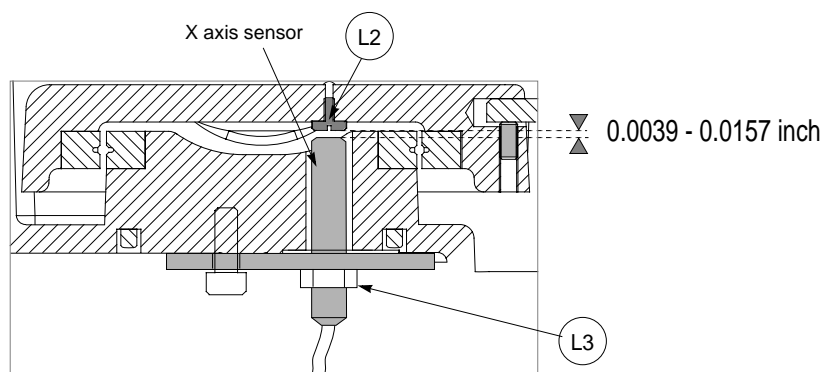

Fig. 48
- 4) loosen the (L3) nut. Unscrew the sensor from the plate and remove it (fig. 48).
- 6) fit the new sensor in position, tightening it until it almost touches the (L2) screw (fig. 48) thus securing it with the (L3) nut.